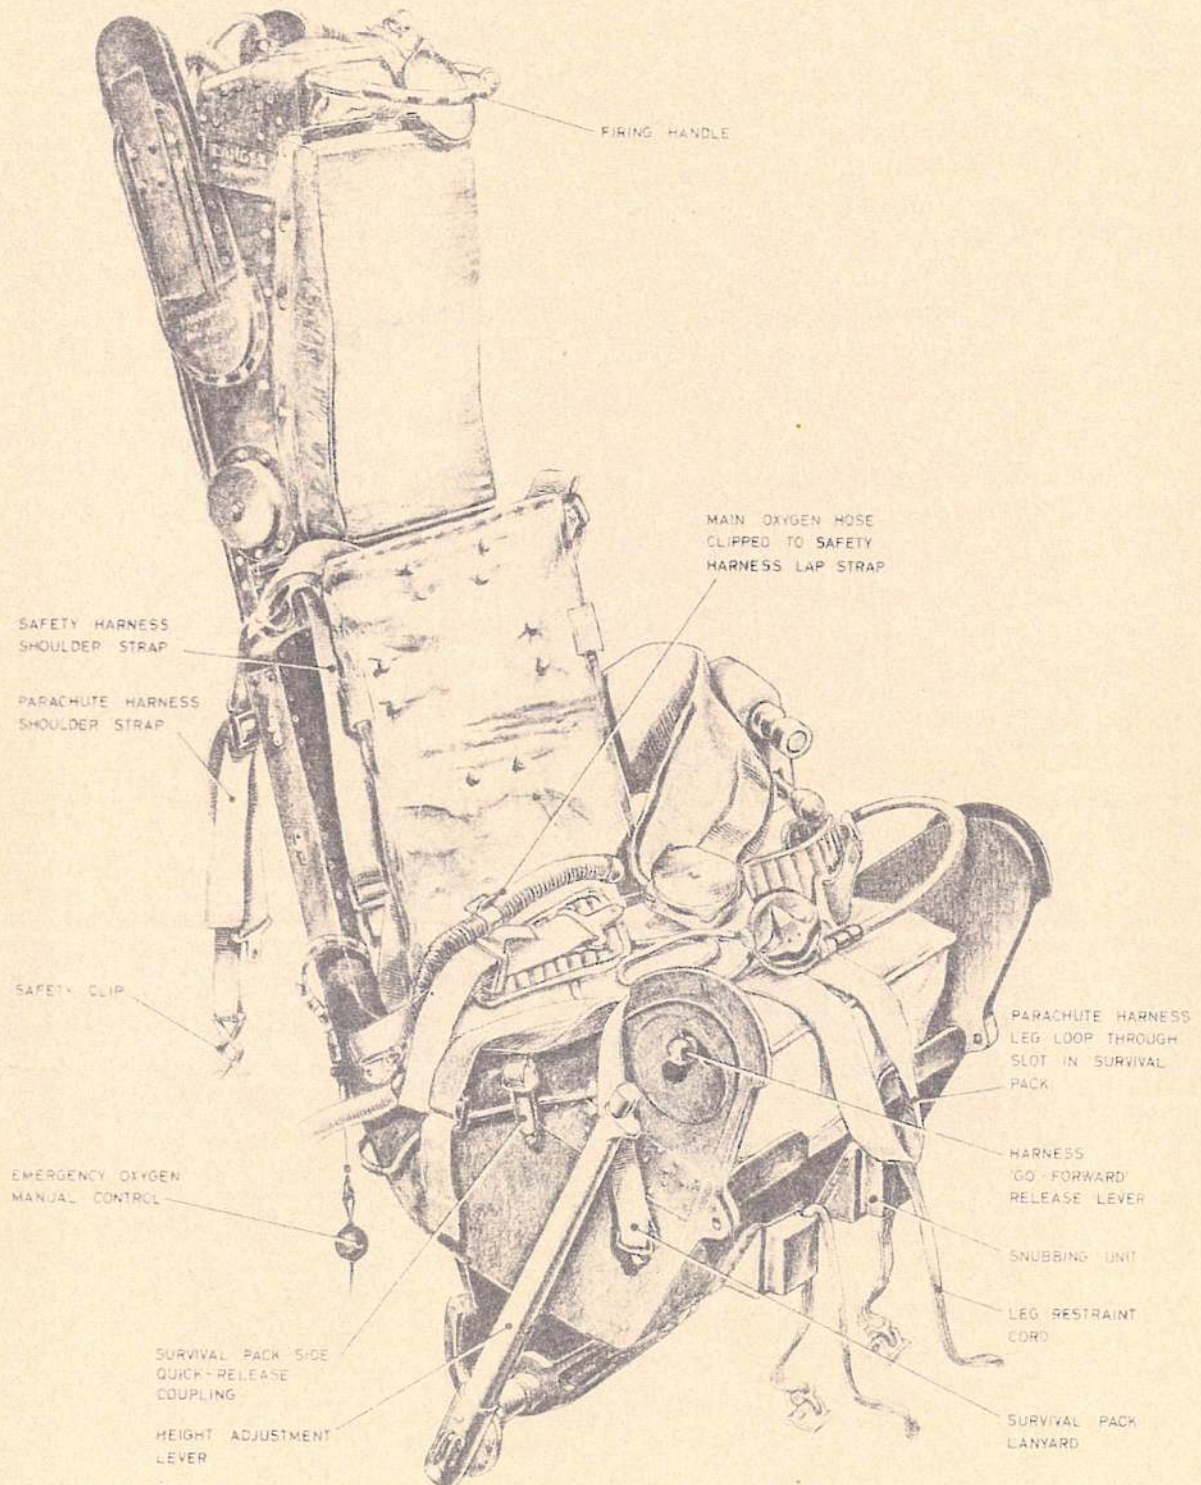

Fig. 1 The seat equipped (1)
18. The following procedure is to be used when equipping the seat; refer to fig. 1 and 2 for detail as necessary:—